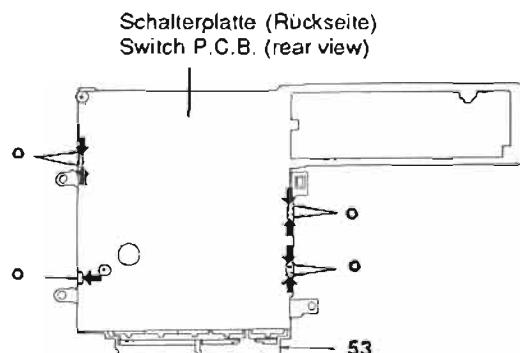

Abb. 23
**11. Removal of the Operation Button 53 (Fig. 23)**